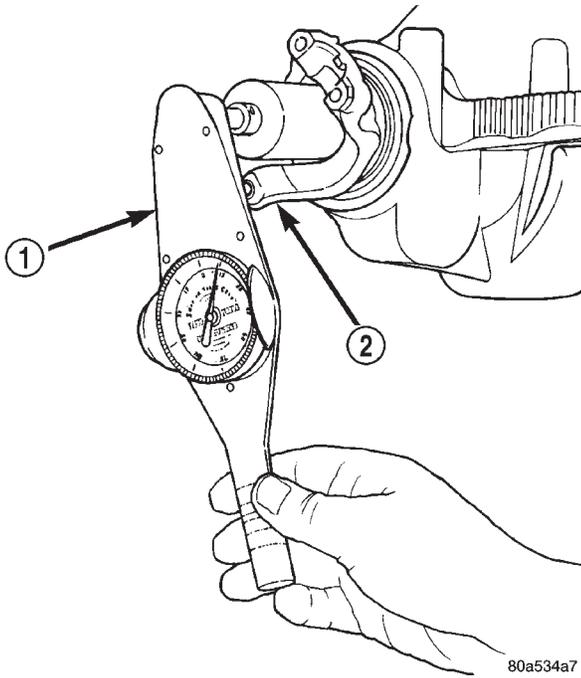

Fig. 40 PINION ROTATING TORQUE
(4) Tighten pinion nut to 217 N·m (160 ft. lbs.).
(5) Rotate pinion shaft using an inch pound torque wrench. Rotating torque should be equal to the reading recorded during removal, plus an additional 0.56 N·m (5 in. lbs.) (Fig. 40).